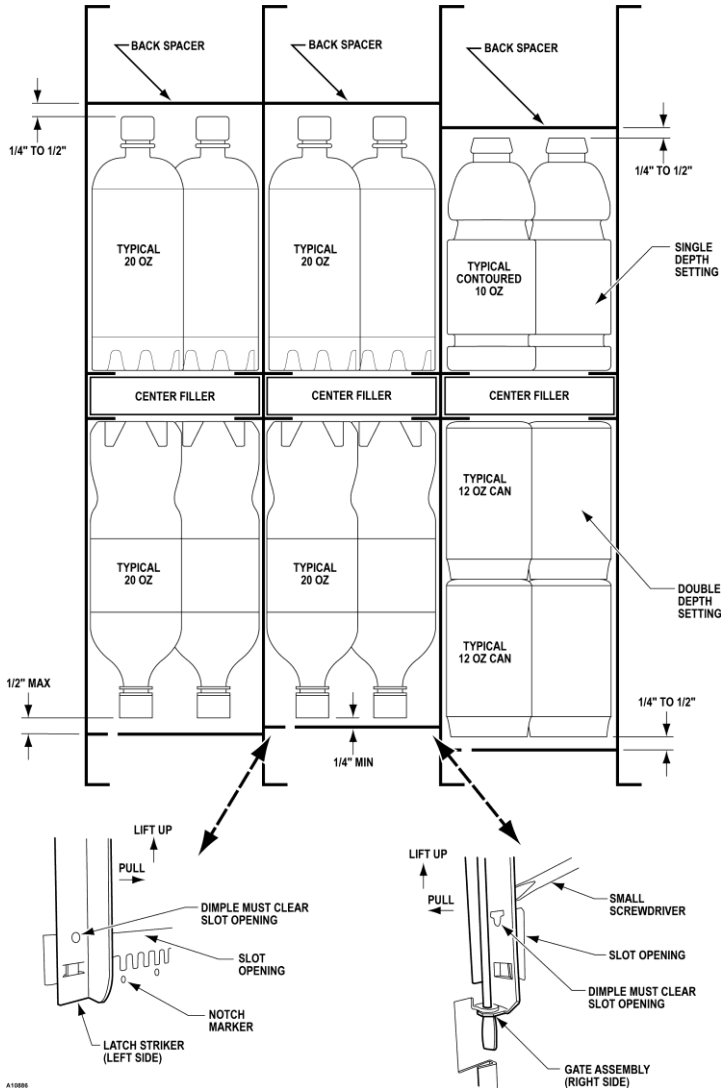

Figure 4. Column Depth
2. Refer to **Figure 4**. Product container bottoms must face toward the center of the rack as shown.
7. Add five (5) rows of products in each column to check product spacing. Products should not have more than $\frac{1}{4}$ to $\frac{1}{2}$ inches of free space at the front or back of the columns. See **Figure 4**.
Lift the back spacer and reposition it in the adjustment slots. Use notch markers as reference points to align it vertically. See **Figure 4**.
Pull and lift up on the lower end of the gate assembly (or latch striker). Use a small screwdriver as a wedge to gently pry the dimple away from the slot opening. See **Figure 4**. Reposition them in the adjustment slots. Use notch markers as reference points to align it vertically.